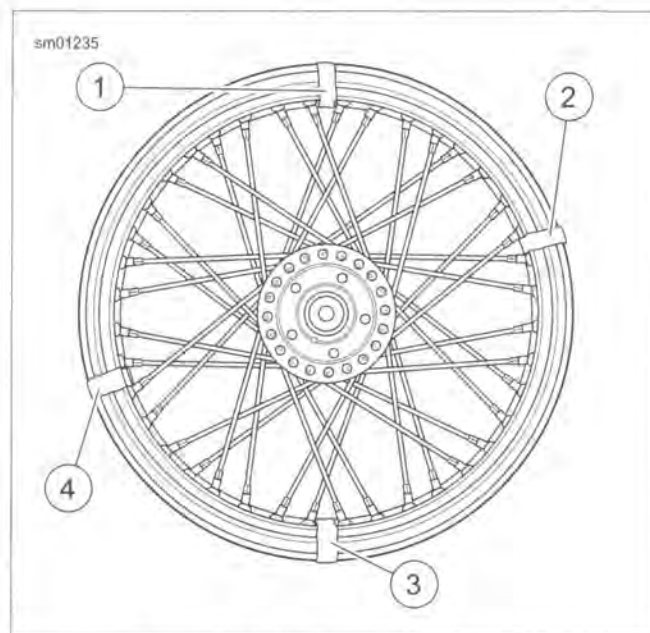

Figure 2-41. Marking Spoke Groups
1. See Figure 2-41. Prepare rim.